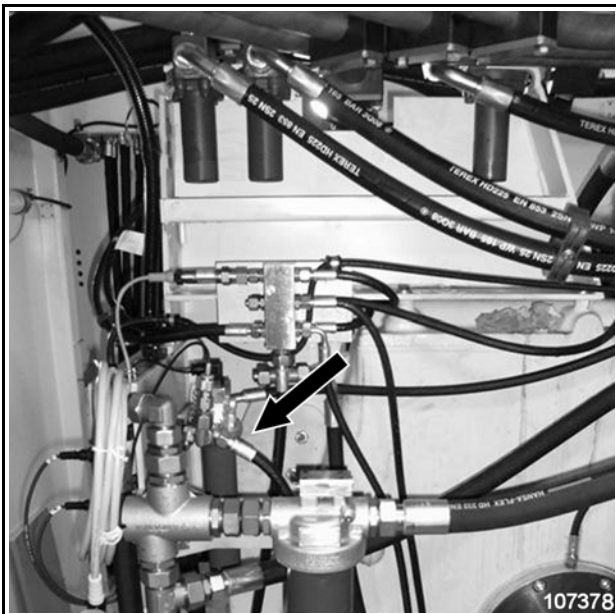

Fig. 3-49:
To filter the hydraulic oil in the control circuit, the machine is equipped with a high-pressure filter (arrow, Fig. 3-49:).
- Place a suitable collecting recipient under the filter housing (Fig. 3-49:).